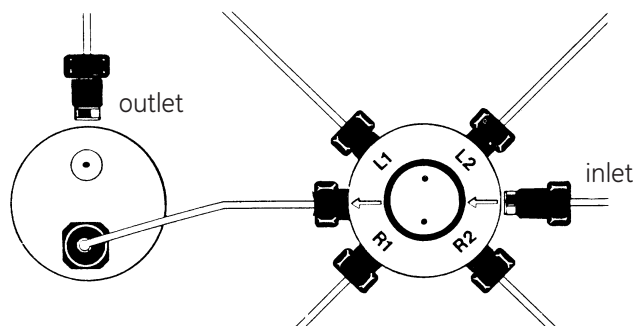

Fig 9. Connection of the outlet and inlet tubing.
2. Connect the inlet tubing to the connection on the right hand side of the valve marked ← and the outlet tubing to the upper connection on the pressure sensor (see Fig 9). Tighten the tubing connectors by using the wrench supplied. Use the end marked N.